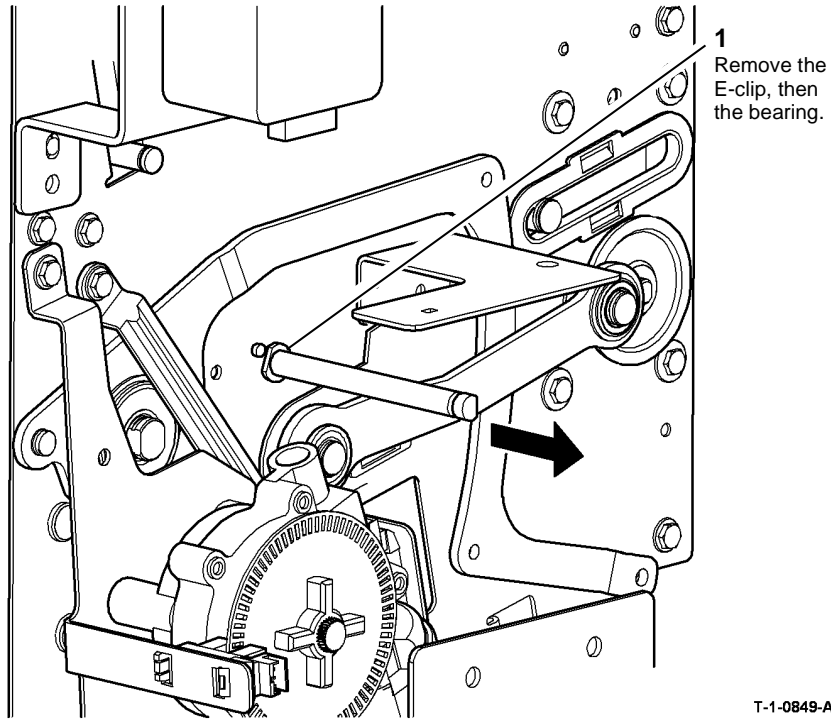

Figure 2 Rear bearing removal
7. Figure 2, remove the rear bearing.